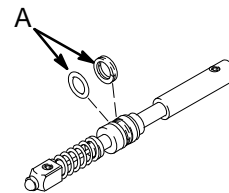

Fig. 7
6. Grease the rings (A) of the new needle (2c*). See Fig. 7.